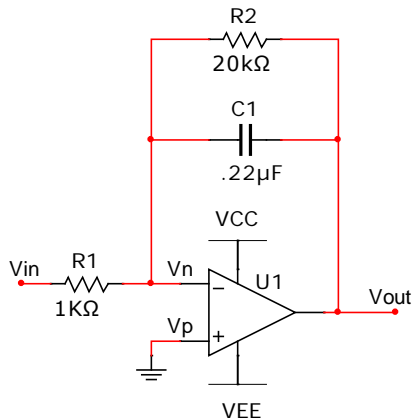
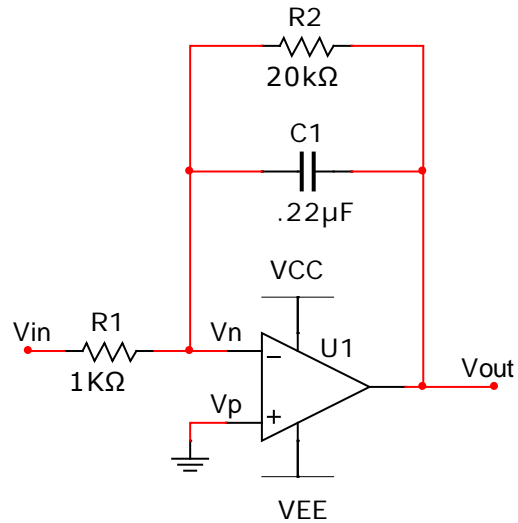

Figure 4. Integrator with shunt.
Figure 14. Integrator with shunt.
2. Analyze the circuit in figure 14 (same as figure 4) to calculate the low-frequency gain. Show that for  $\gg \frac{1}{R_2 C_1}$ , this circuit also functions as integrator.